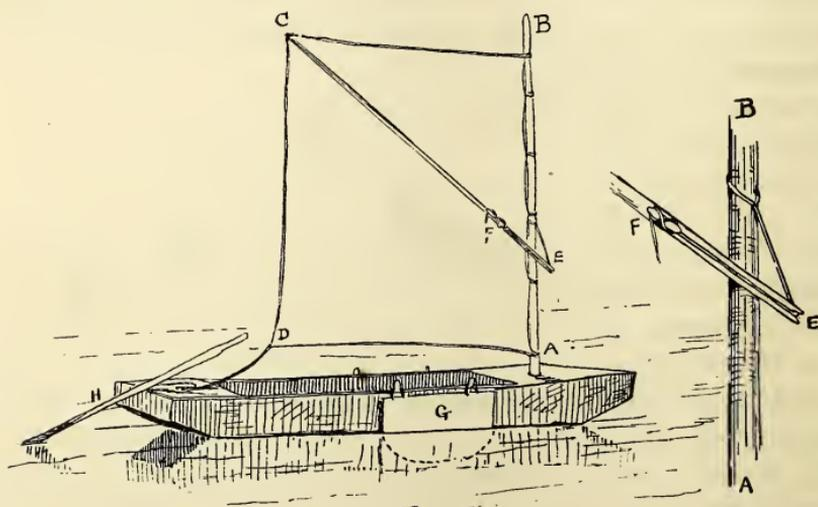
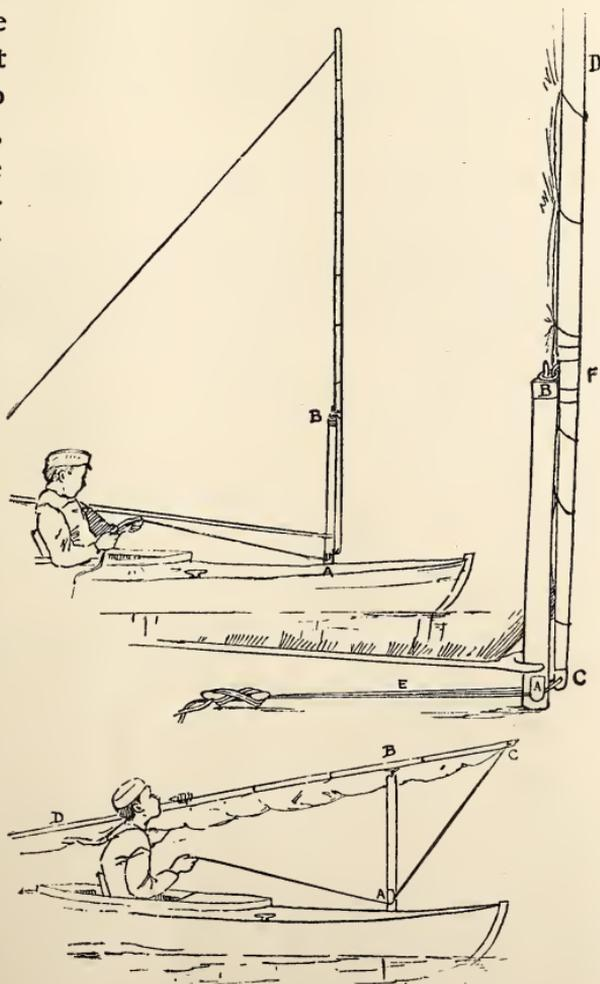
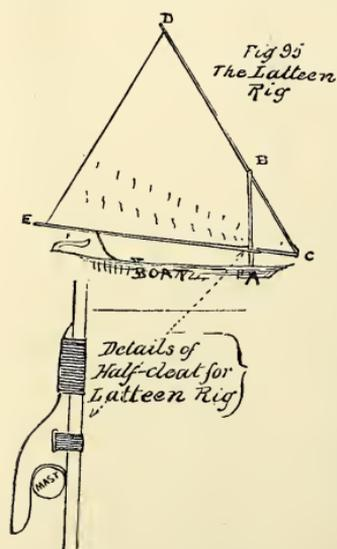

FIG. 92.
FIG. 94.—A New Device.
FIG. 95.—The Latteen Rig.
"I will suppose that the reader has the use of a broad, flat-bottomed boat without any rudder. (See Fig. 92.) She can-
“ Lace the luff of the sail to the mast so that its lower edge will swing clear by a foot or so of the boat’s sides. Make fast to the loop at D a stout line, ten or twelve feet long. This is called the ‘sheet,’ and gives control of the sail. The upper end of the sprit, C, E, is trimmed so that the loop at C will fit over it but not slip down. The lower end is simply notched to receive a short line called a ‘snotter,’ as shown in the detailed drawing at the right of the cut (Fig. 92). It will be readily understood that, when the sprit is pushed upward in the direction of C, the sail will stand spread out. The line is placed in the notch at E and pulled up until the sail sets properly, when it is made fast to a cleat or to a cross piece at F. This device is in common use and has its advantages, but a simple loop for the foot of the sprit to rest in is more easily made and will do nearly as well. H is an oar for steering. Having thus de-
“ Fig. 94 shows a device, published for the first time in the *St. Nicholas Magazine* for September, 1880, which enables the sailor to step and unstep his mast, and hoist or lower his sail without leaving his seat—a matter of great importance when the boat is light and tottlish, as in the case of that most beautiful of small craft, the modern canoe, where the navigator sits habitually amidships. The lower mast (A, B, Fig. 94) stands about two and a half feet above the deck. It is fitted at the head with a metal ferrule and pin, and just above the deck with two half-cleats or other similar devices (A). The topmast (C, D) is fitted at F with a stout ring, and has double halyards (E) rove through or around its foot. The lower mast being in position (see lower part of Fig. 94), the canoeist desiring to make sail brings the boat’s head to the wind, takes the top-mast with the sail loosely furled in one hand, and the halyards in the other. It is easy for him by raising this mast, without leaving
Then, holding the halyards taut enough to keep them in position, he will hook the topmast ring over the pin in the lower mast-head and haul away (see top part of Fig. 94). The mast will rise into place, where it is made fast. A collar of leather, or a knob of some kind, placed on the topmast just below the ring, will act as a fulcrum when the halyards are hauled taut, and keep the mast from working to and fro.
form is shown in Fig. 95. The arrangement for shipping and unshipping the yard is precisely like that shown in Fig. 94—a short lower mast with a pin at the top and a ring fitted to the yard. It has a boom at the foot which is joined to the yard at C by means of a hook or a simple lashing, having sufficient play to allow the two spars to shut up together like a pair of dividers. The boom (C, E) has, where it meets the short lower mast, a half-cleat or jaw, shown in detail at the bottom of the cut (Fig. 95), the circle representing a cross section of the mast. This should be
the spread of sail when the wind becomes too fresh. If you will look at Fig. 95 you will see rows of short marks on the sail above the boom. These are 'reef-points'—bits of line about a foot long passing through holes in the sail, and knotted so that they will not slip. In reefing, the sail is lowered and that portion of it between the boom and the reef-points is gathered together, and the points are tied around both it and the boom. When the lower row of points is used it is a single reef. Both rows together are a double reef.
“Make your first practical experiment *with a small sail and with the wind blowing toward the shore*. Row out a little way, and then sail in any direction in which you can make the boat go, straight back to shore if you can, with the sail out nearly at right angles with the boat. Then try running along shore with the sheet hauled in a little, and the sail on the side nearest the shore. You will soon learn what your craft can do, and will probably find that she will make very little, if any, headway to windward. This is partly because she slides sidewise over the water. To prevent it you may use a 'lee-board'—namely, a broad board hung over the side of the boat (G, Fig. 92). This must be held by stout lines, as the strain upon it is very heavy. It should be placed a little forward of the middle of the boat. It must be on the side away from the wind—the lee side—and must be shifted when you go about. Keels and centre-boards are permanent contrivances for the same purpose, but a lee-board answers very well as a makeshift, and is even used habitually by some canoeists and other boatmen.
the end of the tiller. When the handle of the oar (H, Fig. 92)—or the tiller (F, Fig. 95) if a rudder is used—is pushed to the right, the boat will turn to the left, and *vice versa*. The science of steering consists in knowing when to push and how much to push—very simple, you see, in the statement, but not always so easy in practice.